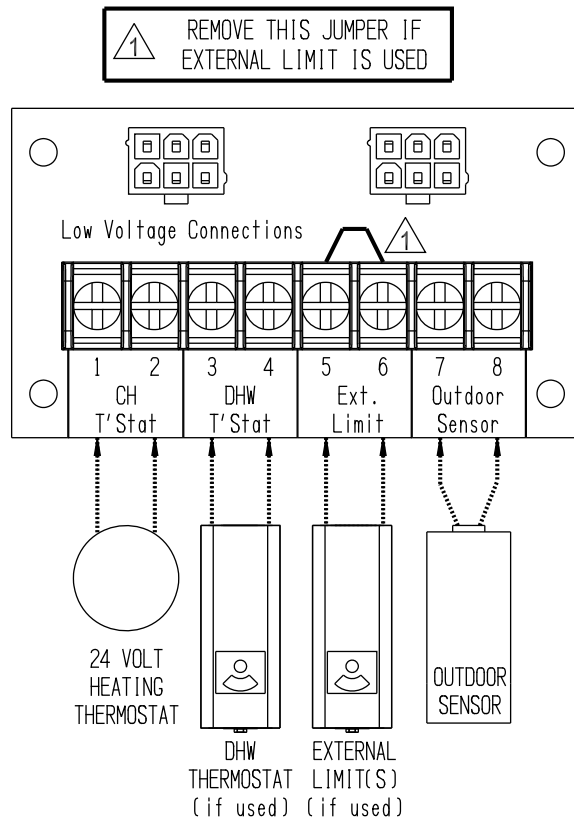

FIGURE 10.3: LOW VOLTAGE PCB TERMINAL CONNECTIONS
- 7) Manual Reset High Limit (required by some codes) - This control is required by ASME CSD-1 and some other codes. Install the high limit in the boiler supply piping just above the boiler with no intervening valves. Set the manual reset high limit to 200°F. Wire the limit per Figure 10.3 in the Wiring section.
**This boiler is equipped with a listed high water temperature limit function. This limit provides boiler shutdown in the event the boiler water temperature exceeds the set point of the limit control. Certain Local Codes require an additional water temperature limit. If necessary, install an additional water temperature limit such as a Honeywell L4006 Aquastat. Wire as indicated in Figure 10.3.**
2) Low Voltage Connections – Low voltage field connections on the low voltage PCB are shown in Figure 10.3 and are listed from left to right:
- 3 DHW Stat - 24VAC domestic hot water thermostat (1)
- 4 DHW Stat - 24VAC domestic hot water thermostat (2)
- 5 External Limit - Field supplied low voltage safety limit contacts (1)
- 6 External Limit - Field supplied low voltage safety limit contacts (2)
- 7 Outdoor Sensor - Tasseron TSA00AA Outdoor Temperature Sensor (1)
- 8 Outdoor Sensor - Tasseron TSA00AA Outdoor Temperature Sensor (2)